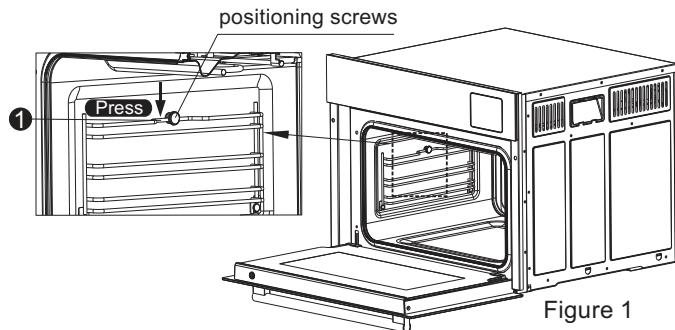

Figure 1
6. Dismantle and install the shelf (the left and right ① shelves are in the same way): press the position of the shelf (fig. 1) until the shelf leaves the set screw, and press the arrow (fig. 4) to take it out upward to remove it. Reinstall the shelf, press (Figure 2) to insert the alignment screws 1 and 2 at the lower end of the shelf, and then snap the upper end of the shelf into the set screws.